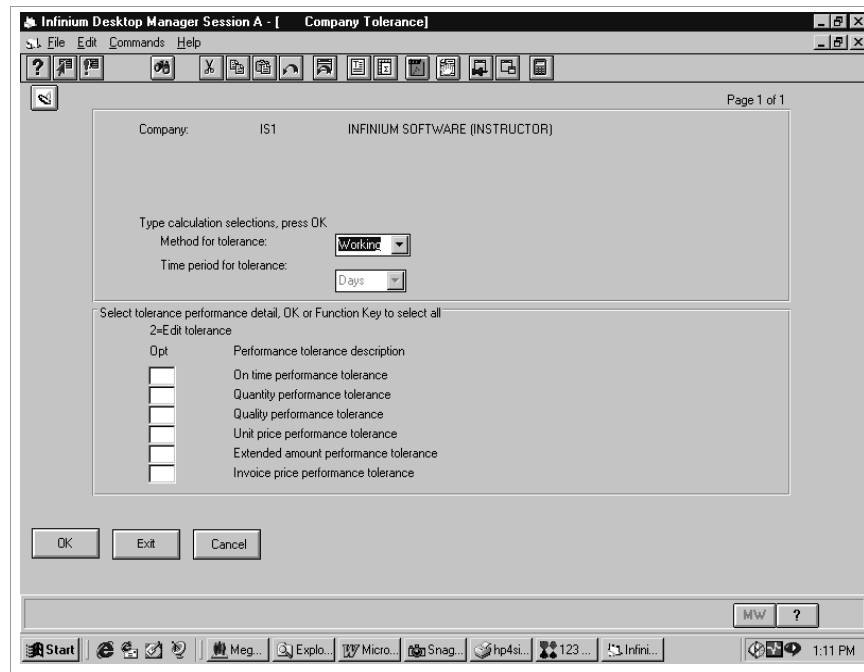

Figure 4-12: Work With Company Tolerance Selection screen
- 2 Press Enter. The system updates the costing information and continues to the Company Tolerance screen as shown in Figure 4-12 after the following information about tolerances.